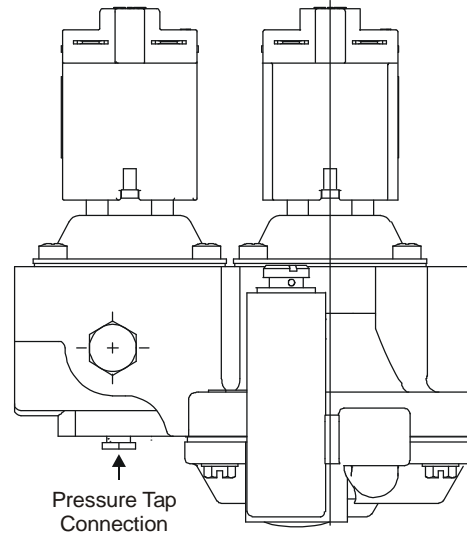

Figure 2: G960 Model with Left-Handed Top Adjustment Regulator with Bottom Pressure Tap
9. Determine outlet pressure. An outlet pressure tap connection is available on the side or underside of the valve body (see Figure 2). To monitor the outlet pressure, remove the pressure tap plug and install an approved pressure monitoring fitting in the pressure connection.
10. Set the valve to the desired outlet pressure. Refer to the *Setup and Adjustments* section for specific adjustment procedures. After making valve adjustments, ensure that the leak-limiting seal cap and pressure tap plug are replaced tightly. See Figure 2.
To adjust the outlet pressure, remove the leak-limiting seal cap to expose the adjusting screw (see Figure 2). Turn the screw (using a suitable screwdriver) in a clockwise direction to increase the pressure or in a counterclockwise direction to decrease the pressure.